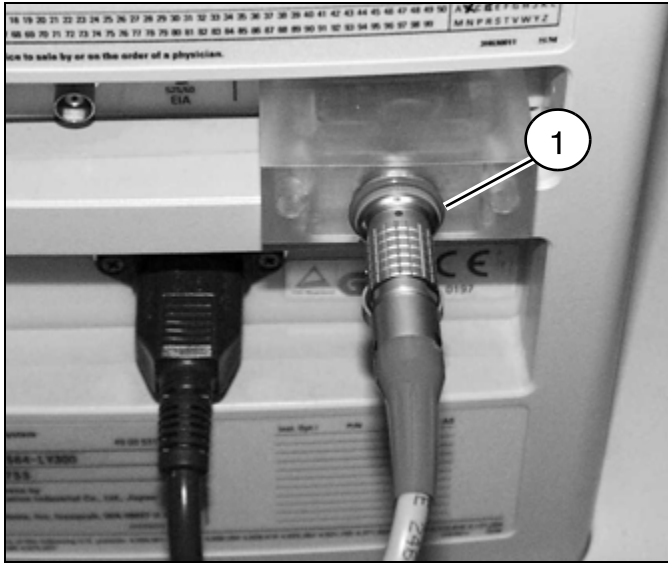

Fig. 41: SONOLINE Prima
- Install the connector adapter (1/Fig. 41 / p. 38).